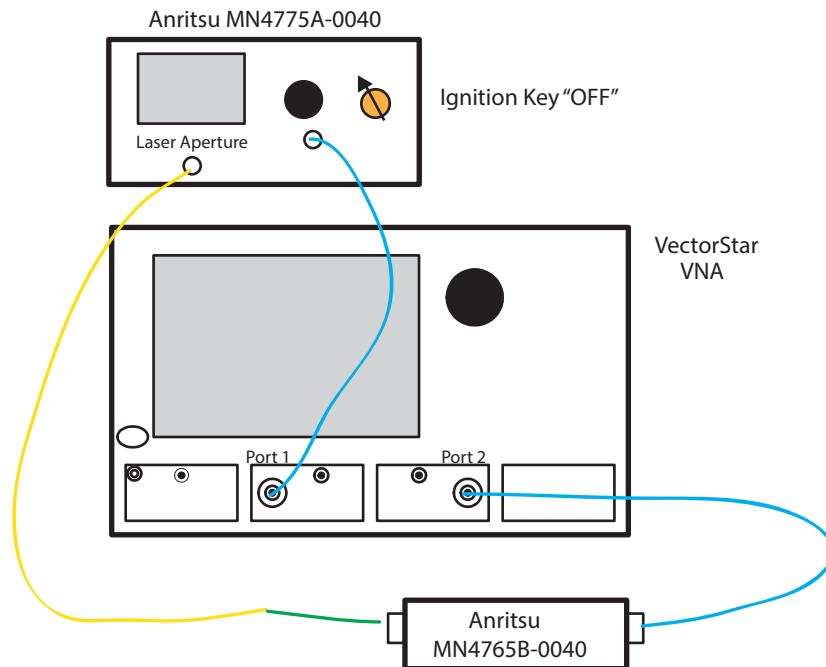

Figure 3-29. Optical Connection to MN4765B-0040
3. Connect **Yellow-colored** end of Optical patch cable to MN4775A-0040 E/O Converter as shown in Figure 3-29.
4. Connect **Green-colored** end of Optical cable to MN4765B-0040 as shown in Figure 3-29.
5. Connect the VNA Port 1 to Anritsu MN4775A-0040 E/O Converter RF Input as shown in Figure 3-29.
6. Connect Anritsu MN4765B-0040 O/E Module Output to VNA Port 2 as shown in Figure 3-29.